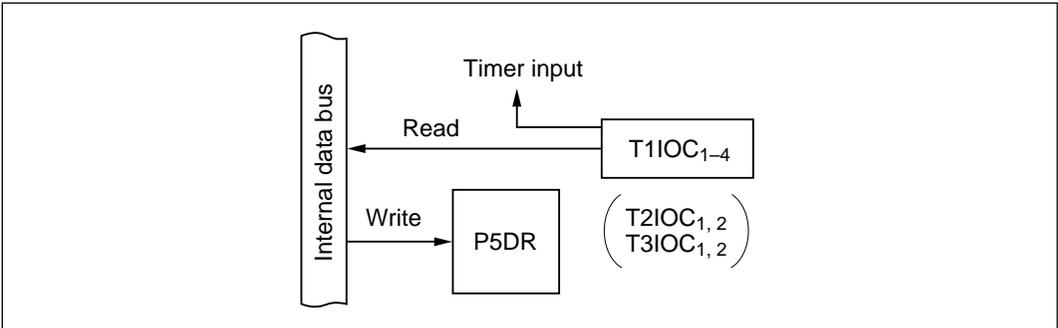

Figure 10-33 Input Capture Combined with General-Purpose Input (Modes 1 to 7)
(5) **Timer Input Combined with General-Purpose Input (Modes 1 to 7):** Figure 10-33 shows a block diagram illustrating the input capture function when combined with general-purpose input. Table 10-26 indicates register read/write data. An input capture pin can also be read as an input port, to monitor the timer input level at T1IOC₁ to T1IOC₄, T2IOC₁, T2IOC₂, T3IOC₁, or T3IOC₂.